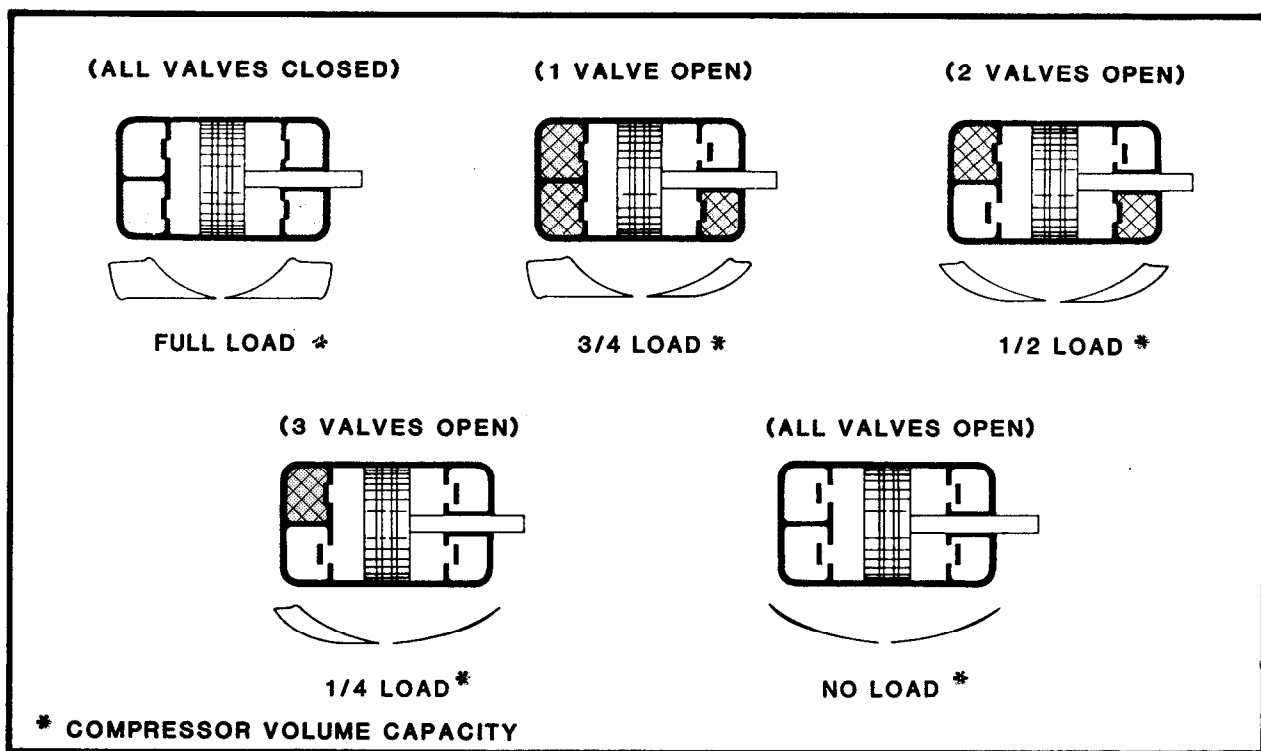

FIGURE 5-6. Five-Step Clearance Control
1.1.1.2 Clearance Pockets. Another method of unloading a compressor is by the use of clearance pockets built into the cylinder. Normal clearance is the volume at the end of the piston and under the valves when the piston is at the top of the compression stroke. Each end of the cylinder is fitted with two clearance pockets which are connected with, but cut off from, the cylinder by air-operated clearance valves. Each clearance pocket can hold one-quarter of the air compressed by the cylinder in one stroke. When both pockets at one end of the cylinder are open, no air is taken into that end of the cylinder. The clearance valves are separate from, and work independently of, the main compressor valves. They are similar to the regular inlet valves but have an air-operated lifting yoke which operates in the same manner as the inlet valve unloader described in paragraph 1.1.1.1. Figure 5-6 illustrates the operation of the clearance pockets and the corresponding indicator diagrams of an air compressor under five-step clearance control.